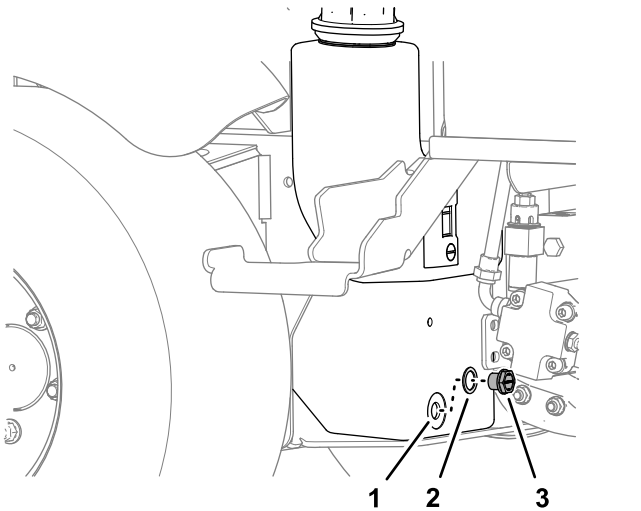

Figure 88
- Align a drain pan under the hydraulic tank, remove the tank drain plug, and fully drain the hydraulic fluid (Figure 88).